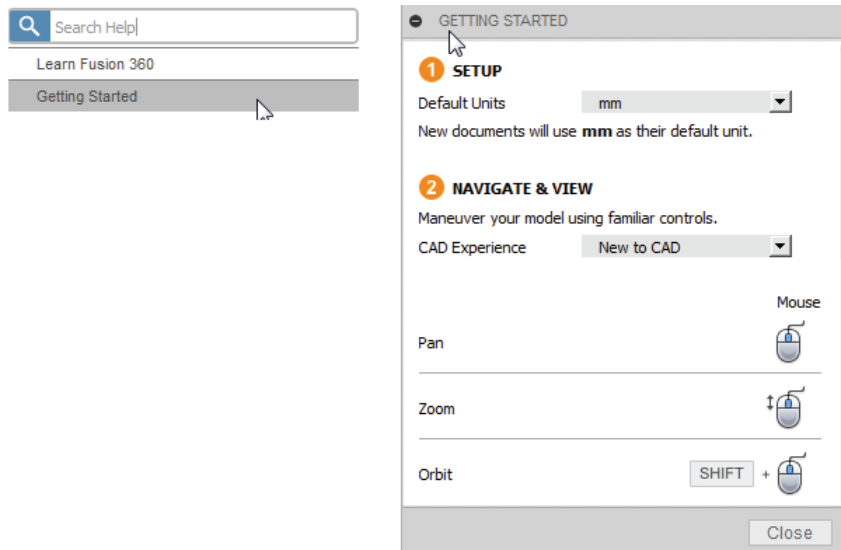

Figure-76. Getting Started
- The navigation functions of mouse can be set as Autodesk Inventor, SolidWorks or Alias by using this tool and you can also set the units for your project; refer to Figure-76.